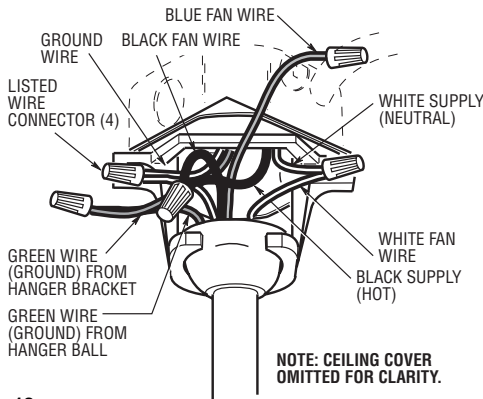

Figure 13
- 2. Securely connect the fan motor white wire to the supply white (neutral) wire using wire connector supplied (Figure 13). Securely connect the fan motor black wire to the supply black (hot) wire using wire connector supplied (Figure 13).